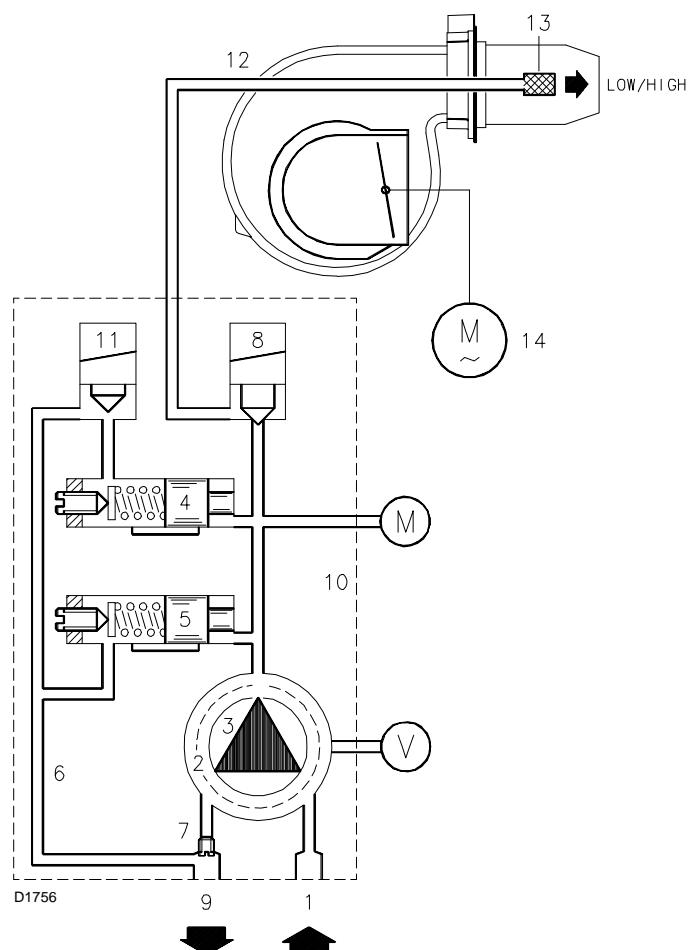

Fig. 25
- When the temperature or the pressure increases until the control device TR opens, solenoid valve 11) (Fig. 25) opens, and the burner passes from the 2nd to the 1st stage of operation.